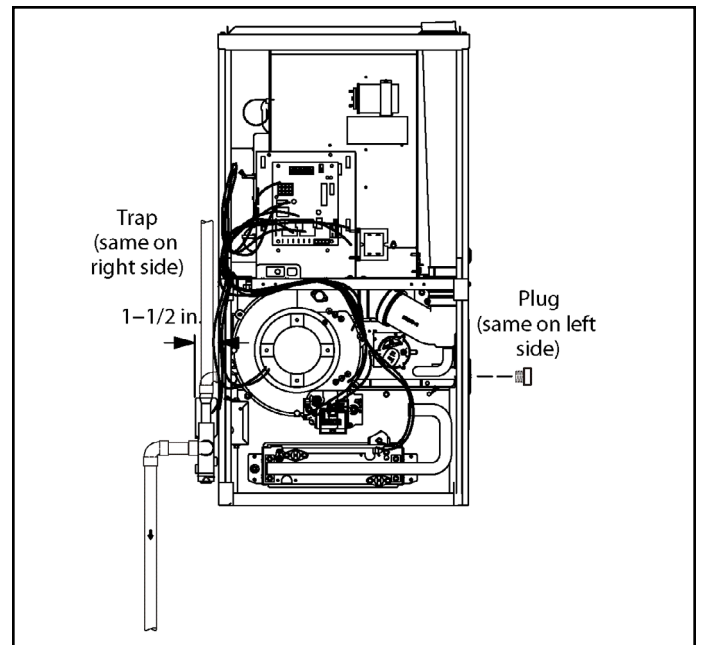

Figure 37. Condensate Trap and Plug Locations
This unit is designed for either right- or left-side exit of condensate piping. Refer to Figure 37 and Figure 39 for condensate trap locations.
2. For furnaces with a 1/2" drain connection use a 3/8 allen wrench and remove plug (Figure 37) from the cold end header box at the appropriate location on the side of the unit. Install field-provided 1/2 NPT male fitting into cold end header box. For furnaces with a 3/4" drain connection use a large flat head screw driver or a 1/2" drive socket extension and remove plug. Install provided 3/4 NPT street elbow fitting into cold end header box. Use Teflon tape or appropriate pipe dope.